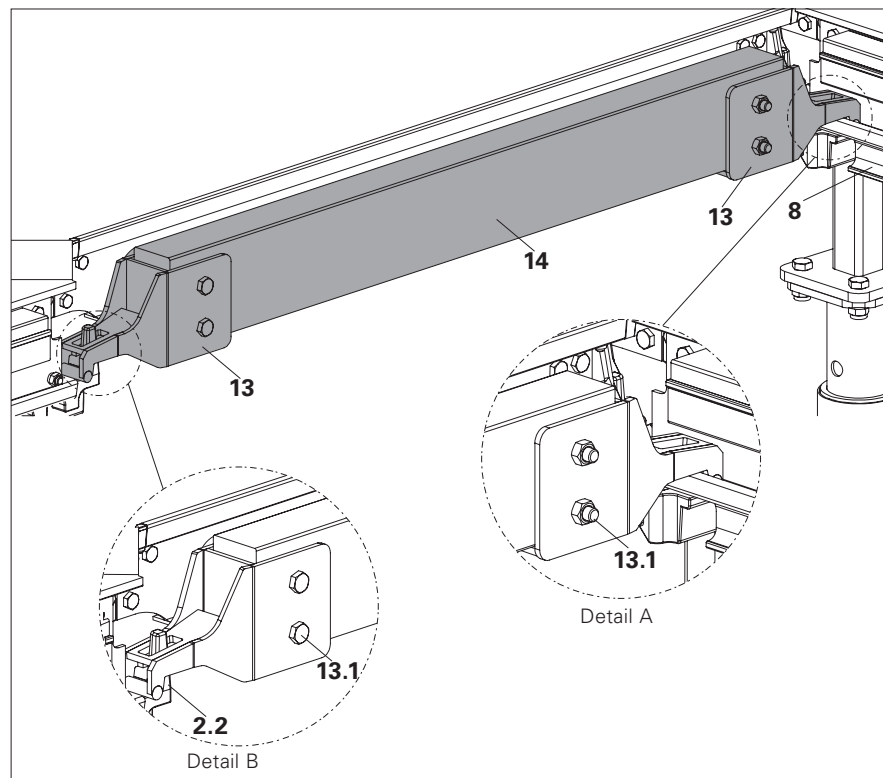

Fig. A7.04
1. Pre-assembly of cross beam head (13) and timber (14) size 50 x 100 mm should be done on ground.
- Drill the timber (14) and attach the timber to cross beam head (13) with 2 no. of bolts and nuts (M10 x 80) (13.1) (Article no. 710593 and 710234) on each side. (Fig. A7.04), (Fig. A7.05) and (Table A7.02).
2. Always fix the filler beam ADF (8) parallel to the longer direction.
3. Fix the cross beam assembly parallel to the shorter direction with one end on the lip of the filler beam ADF (8) as shown in detail A and other end on the pin of the flyplate (2.2) of the drophead ADH (2) as shown in detail B. (Fig. A7.04)